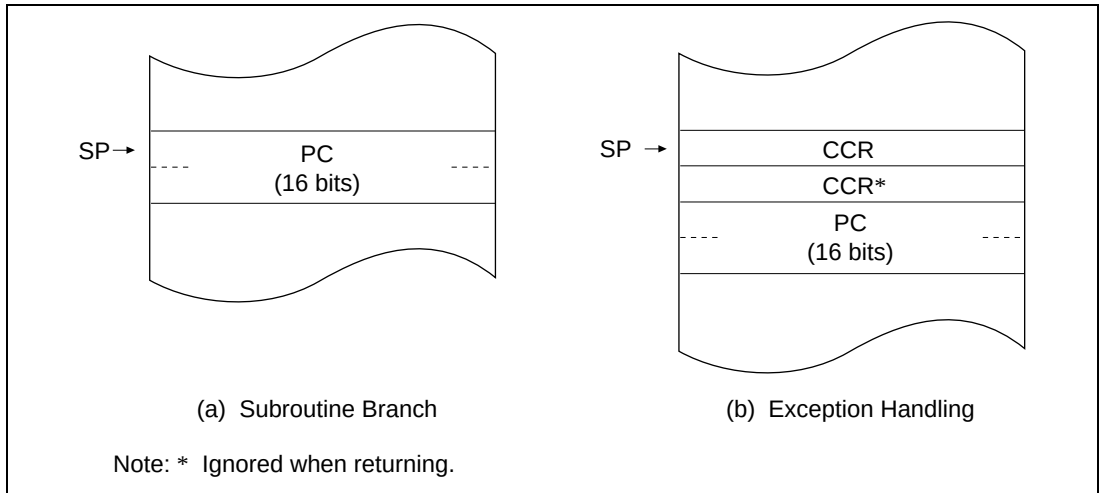

**Figure 2.3 Stack Structure in Normal Mode**
When the program counter (PC) is pushed onto the stack in a subroutine call, and the PC and condition-code register (CCR) are pushed onto the stack in exception handling, they are stored as shown in figure 2.3. The extended control register (EXR) is not pushed onto the stack. For details, see section 5, Exception Handling.